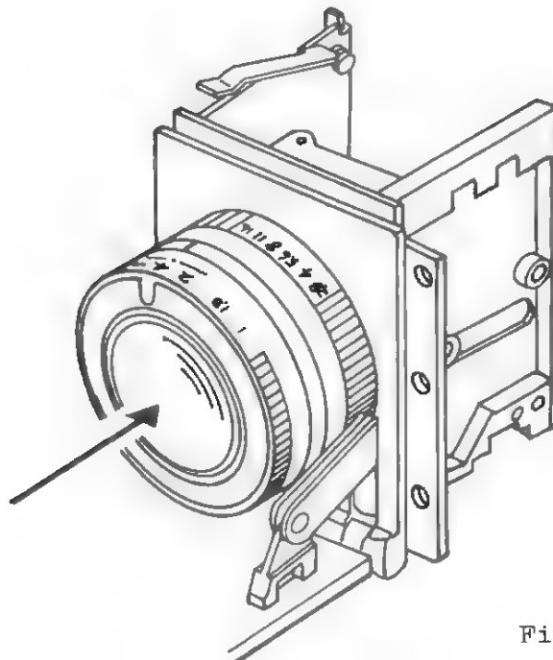

Fig 44
- c) Pushing the Shutter Ass'y forward in direction of arrow as shown in (Fig 44).